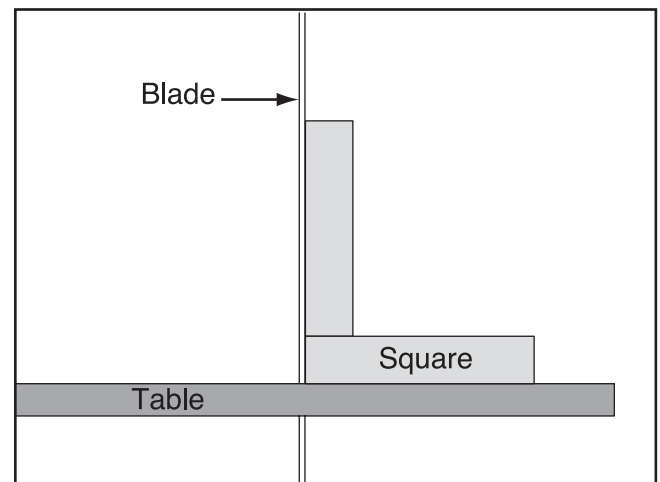

Figure 65. Squaring table to blade.
3. Loosen the guide post lock knob, raise the guide post and lock it in place, then place a machinist's square on the table next to the side of the blade as illustrated in **Figure 65**.